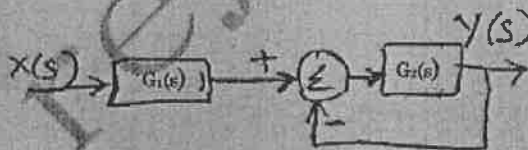

Fig. 1
1. Find the transfer function of the network given in Fig. 1